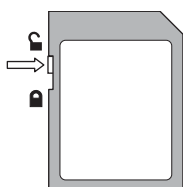

Figure 12.2.1b Write protect tab
3. Ensure that the replacement card is not write protected (figure 12.2.1b), then insert it into the slot and gently push it home.